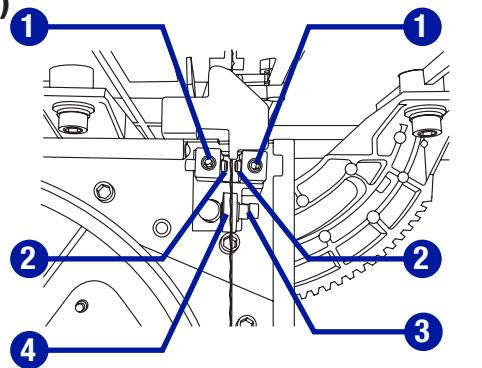

Fig. 20
**ADJUSTING THE LOWER BLADE GUIDE (Fig. 20)**
- Loosen the screws (1) to move guide pins (2) away from the blade sides.
- Loosen socket head bolts (3) and adjust the bearing (4) so that the rear part of blade is positioned 0.002" away from the bearing.